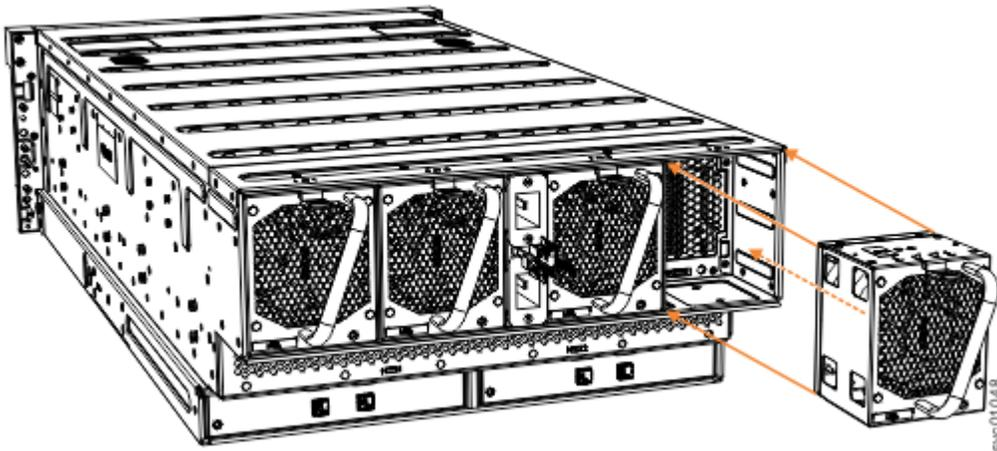

Figure 171. Remove and replace a fan module
3. Use the handle to pull the fan module out of the expansion enclosure chassis, as shown in Figure 171 on page 224.
6. Carefully insert the fan module into the chassis until it clicks in place, as shown in Figure 171 on page 224.